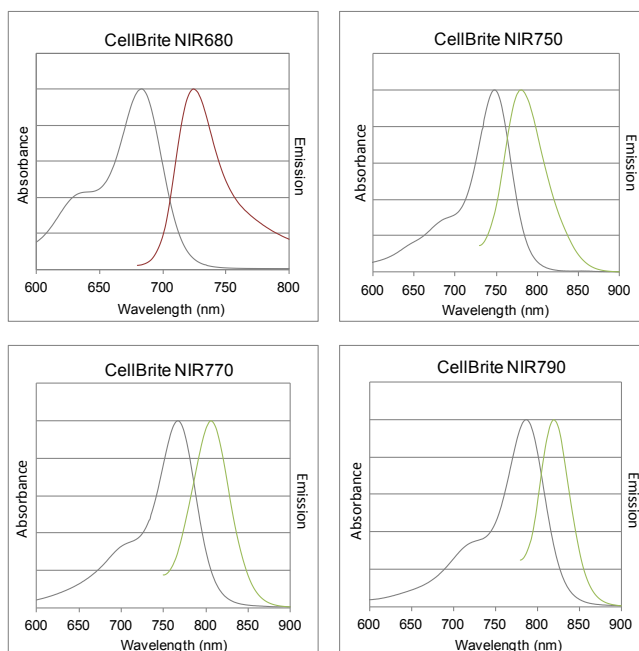

Figure 1. Absorbance and emission spectra of CellBrite™ NIR dyes in methanol.
* Absorption/emission maxima, measured in methanol (see Figure 1).
CellBrite™ NIR Cytoplasmic Membrane Dyes are novel near-infrared carbocyanine dyes for labeling the cytoplasmic membranes of living cells. Due to their long emission wavelengths (Figure 1), near-infrared cell membrane stains can be used to label cells for near-infrared small animal imaging studies for non-invasive imaging of cell migration and cell homing (9). The dyes have long 18-carbon hydrophobic tails and an additional water-soluble group. These unique chemical structure elements make the dyes easy to dissolve while providing highly stable cytoplasmic membrane staining, unlike traditional carbocyanine dyes like DiI, DiO, and DiR, which are often difficult to dissolve or prone to precipitation during cell staining.